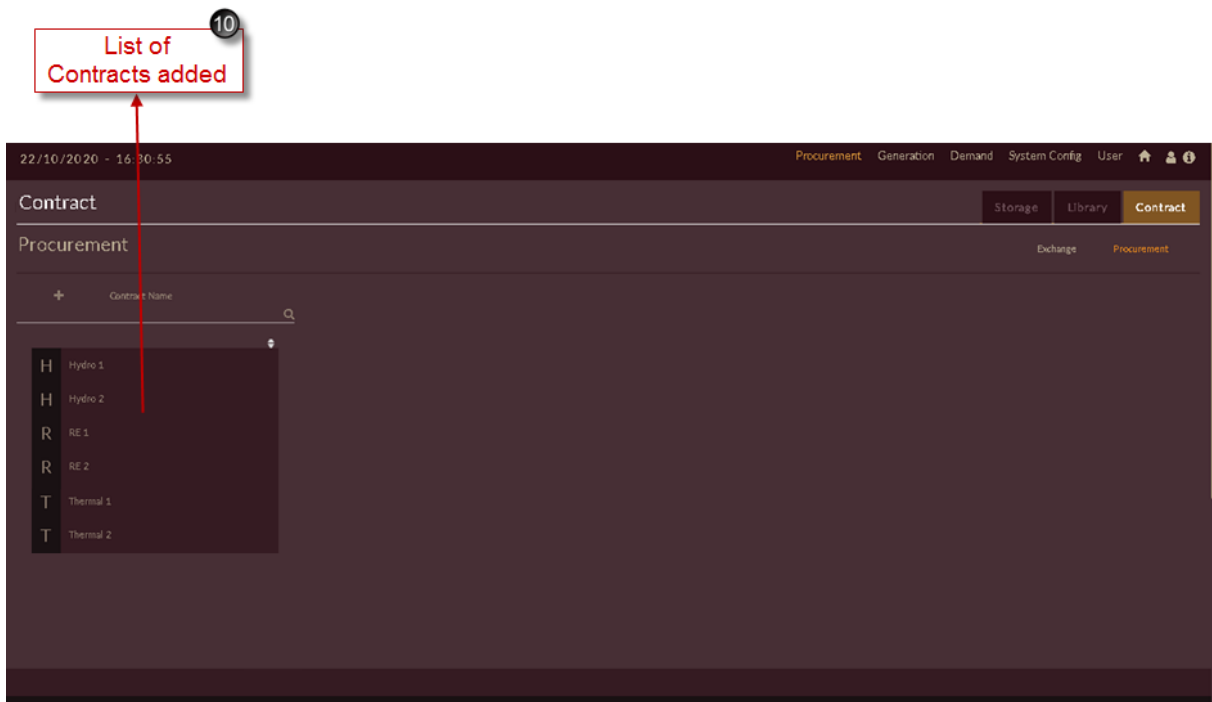

Figure 243. List of Configured Contract Plants
- Once all the Contract plants are added and configured the final Contract > Procurement page will appear as shown in Figure 243. List of all the Procurement/Contract plants will appear on left of the application page.